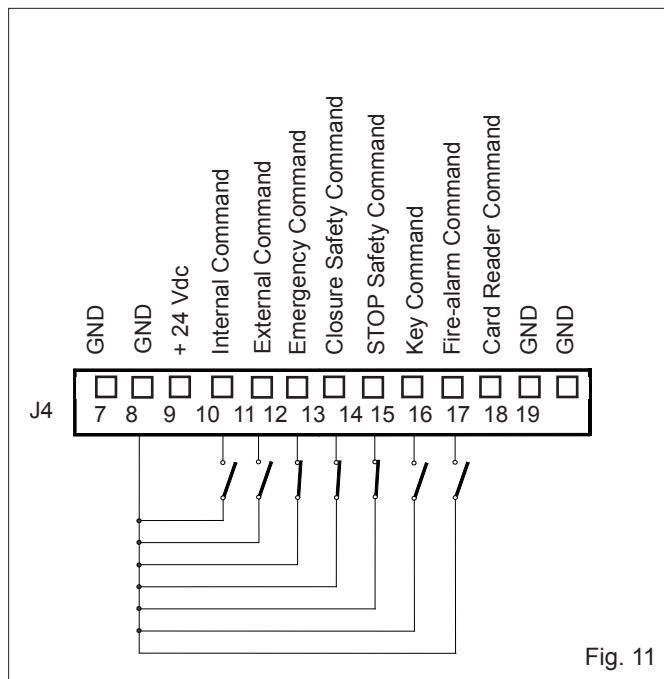

Fig. 11
⑤ **J4 TERMINAL BLOCK** Inputs Connection (figs. 11,12,16)
**NIGHT:** The external command is inactive. The door can be opened solely by activating the Key command (fig. 11) .